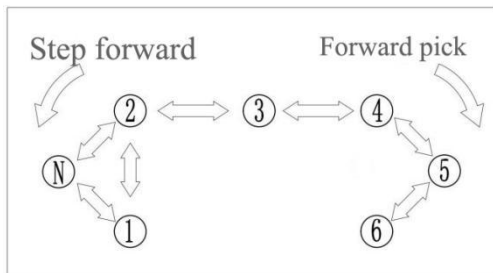
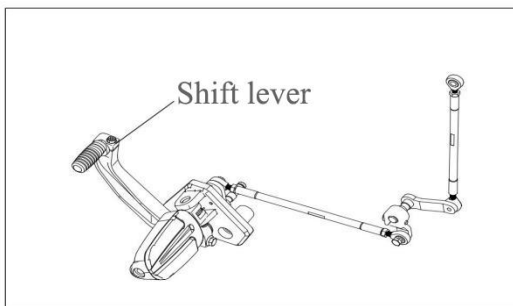

Figure 13 Shift Position Map
Figure 14 Shift lever
5.4.1 Shift operation (Figure 13, Figure 14)